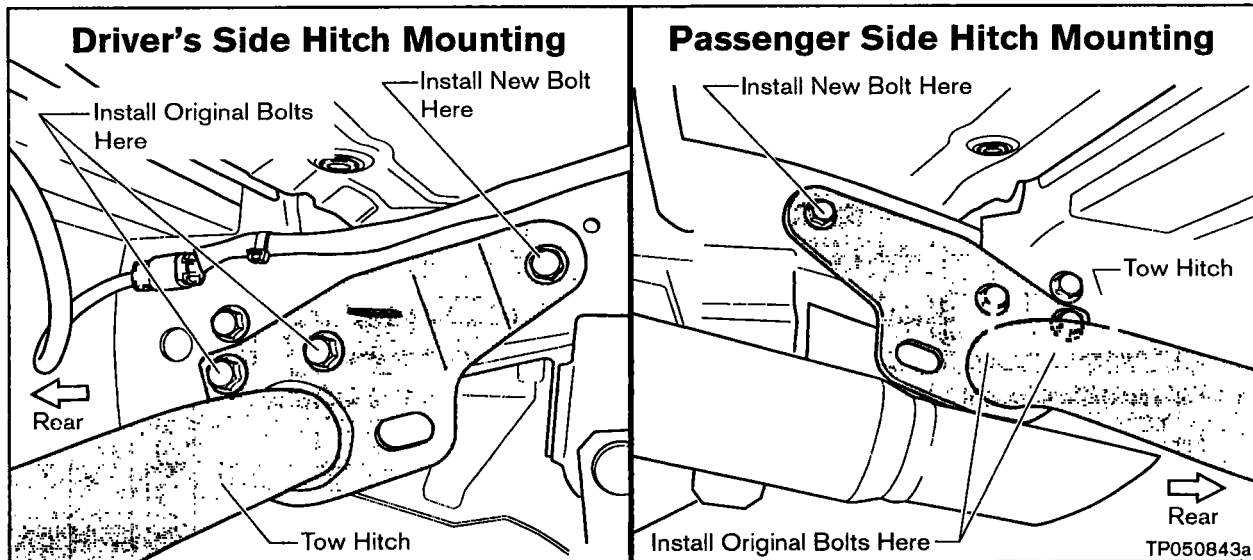

Figure A7
**NOTE:** The new Tow Hitch comes with two new mounting Bolts. Install these new Bolts at the locations shown in Figure A7.